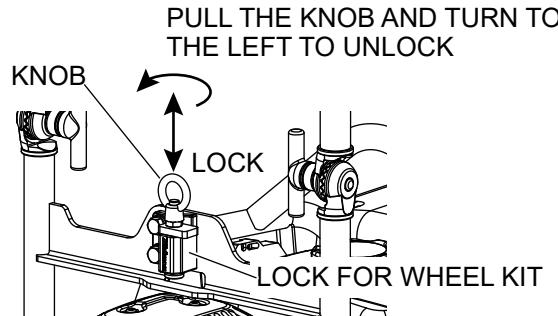

Figure 6. Wheel Kit Lock
1. Check that the lock for the wheel kit works. See Figure 6.